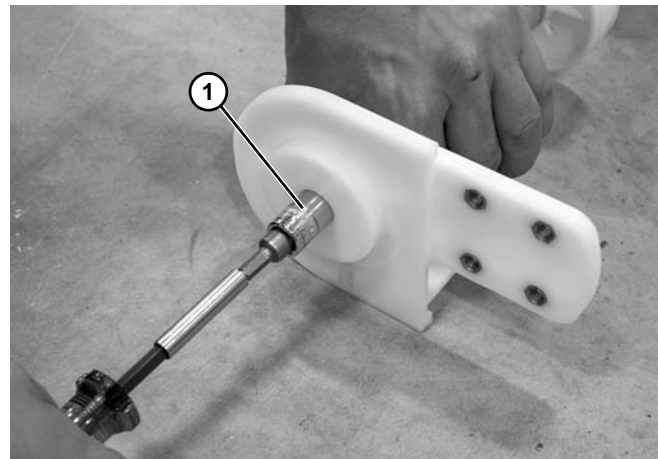

Figure 57
- Using a 13 mm socket (**Figure 57, item 1**), remove the headplate screw from the shaft.